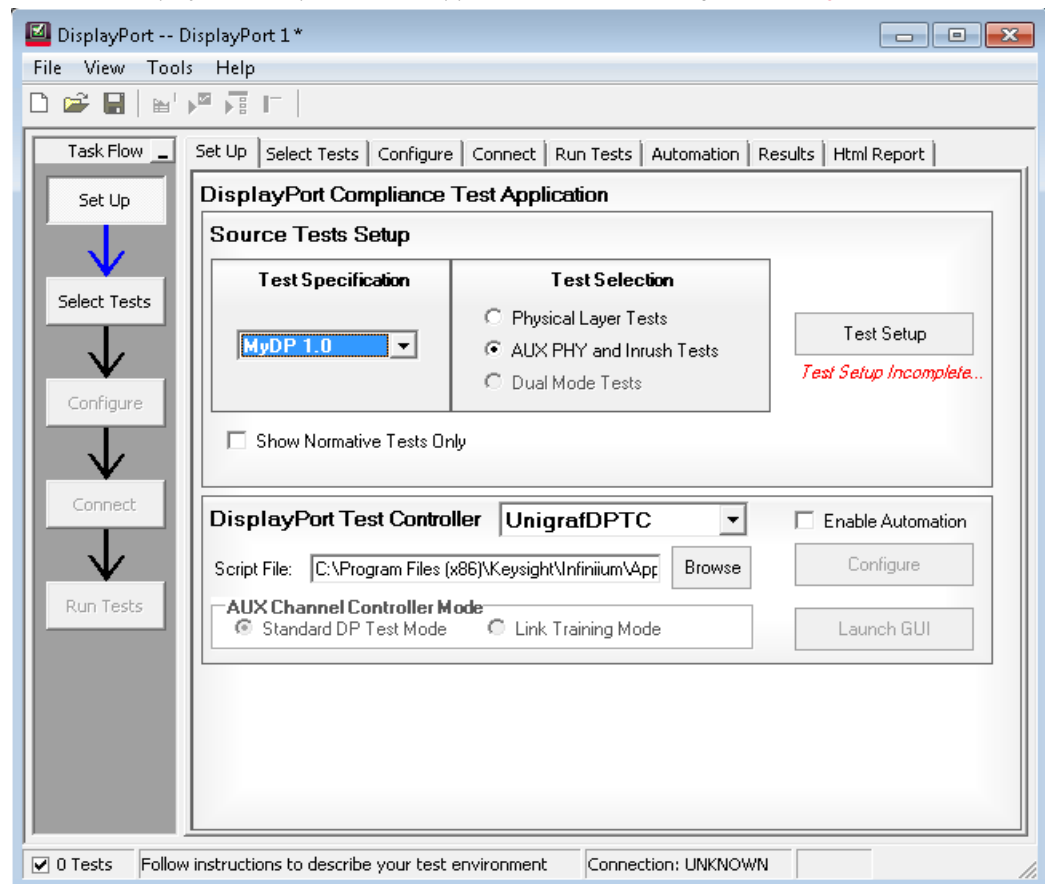

Figure 137 Set Up tab on the DisplayPort Compliance Test App
- 3 On the DisplayPort Compliance Test Application, click the **Set Up** tab (see Figure 137).